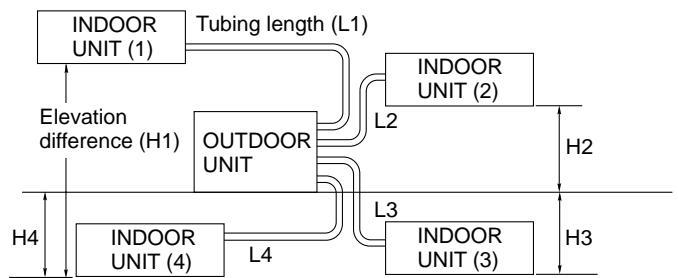

Fig. 3a
- install the unit within the maximum elevation difference (H_1 , H_2 , H_3 , H_4) above or below the outdoor unit and within a total tubing length (L_1+L_2 , $L_1+L_2+L_3$, $L_1+L_2+L_3+L_4$) from the outdoor unit as detailed in Table 1 and Fig. 3a.